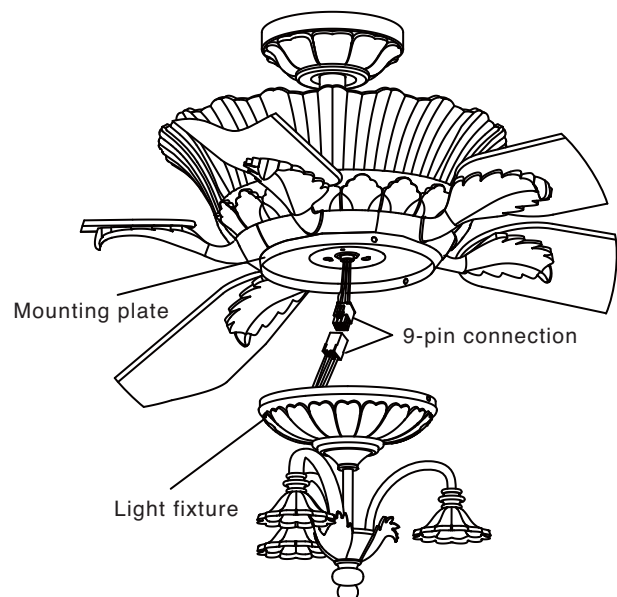

Fig. 36
Step 3. Attach the Light Fixture wiring to the Ceiling Fan wiring by taking the “Square 9 Pin Connector” from the Light Fixture and pushing it into the “Square 9 Pin Connector” from the Ceiling Fan until the snap engages. Please note each connector is Color Coded and will fit together one way only. Refer to Fig. 36.
Step 4. Now tuck the wiring connections neatly into the switch housing. Align the key hole slots on the side of the switch housing to the three (3) screws on the side of the mounting plate. Turn the Light Fixture until it locks in place at the narrow end of the key holes. Secure by tightening the three (3) screws previously loosened. Refer to Fig. 36.